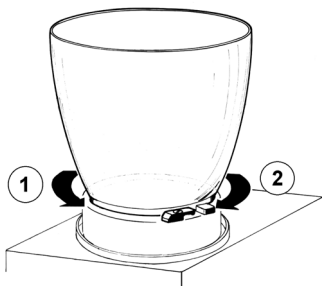

figure 2
- 4 Remove the empty bowl by rotating it counterclockwise (see figure 2).
- 2 Fit bowl gasket to the bowl around its seat. Place the bowl on the unit and then push it down all the way. Fix the bowl by rotating (2) it clockwise. Wet the gasket for ease of insertion (see figure 2).